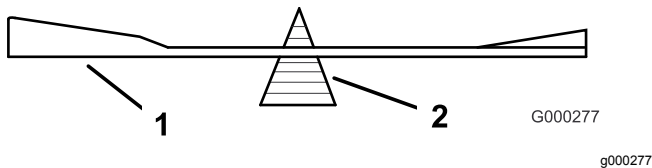

Figure 98
- Check the balance of the blade by putting it on a blade balancer (Figure 98).